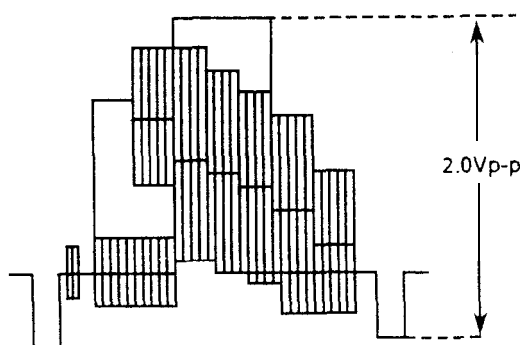

Figure 2-11.
2. Hook up the oscilloscope to pin ⑨ of IC201 (video output). Adjust R209 (playback level control) so that the on-screen waveform be $2.0 \pm 0.1\text{Vp-p}$ as shown in Figure 2-11.